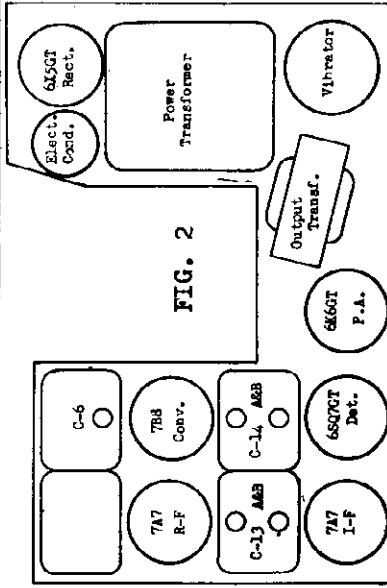

FIG. 2
2. Adjust trimmers C-14 A&B and C-13 A&B to maximum response. (See Fig. 2)
3. Adjust code rejector trimmer C-6 for minimum response. (See Fig. 2).